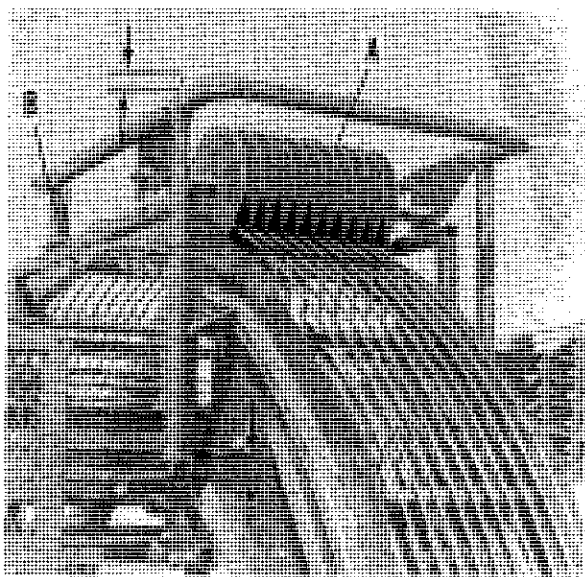

FIGURE 36 - STRIPPER ADJUSTMENT
The stripper is a free-wheeling device that clears the wheel elevator. The stripper wheels (A) must be centered between the wheel elevator rods so they do not make contact (see figure 36).
Straighten elevator rods if bent during shipping. Turn the wheel elevator through one or two complete revolutions and slide stripper supports (B) right or left to eliminate interference (see figure 36).
The distance between the stripper frame and the end of the eyebolt should be 1" at the top; the distance between the bottom of the bracket and the end of the eyebolt should be 2 1/2" at the bottom of the tube (see figure 36).